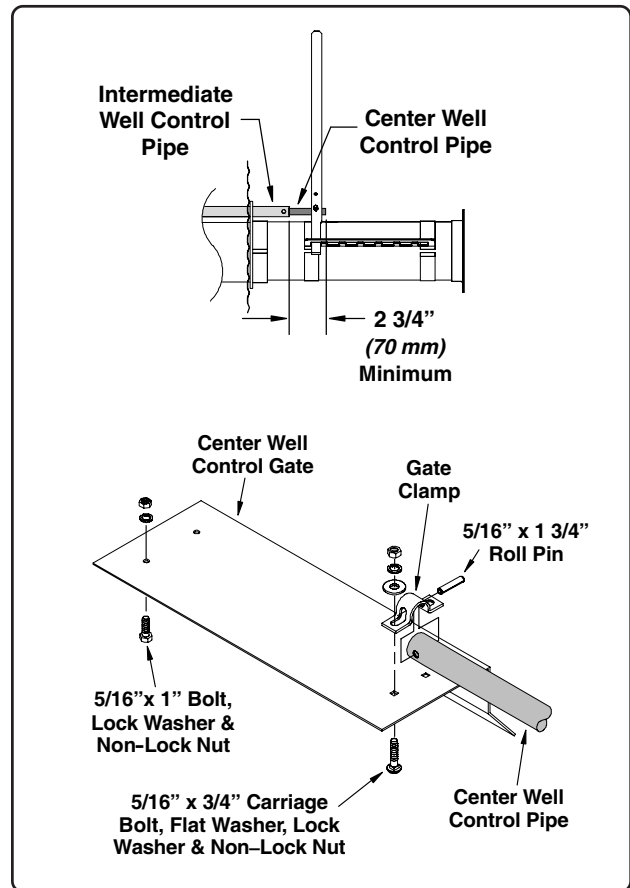

Fig. 10
Check the length of the center well control pipe on the outside of the bin. In order for the intermediate well pipe to be connected to the center well pipe, there needs to be a minimum of 2 3/4" (70 mm) of the center well pipe extending past the end of the intermediate well pipe (See Fig. 10).
12. Attach the control pipe to the control gate by sliding a 5/16" x 1 3/4" roll pin through the clamp and the predrilled hole in the control pipe. Fasten clamp to top side of control gate using two (2) 5/16" x 3/4" carriage bolts, flat washers, lock washers and nuts. Install the nuts so they secure the roll pin in place (See Fig. 10).
13. Secure two 5/16" x 1" bolts, lock washers and non-lock nuts into the two holes at the rear of the control gate. This is to ensure the gate cannot be accidentally pulled completely out of the well (See Fig. 10).